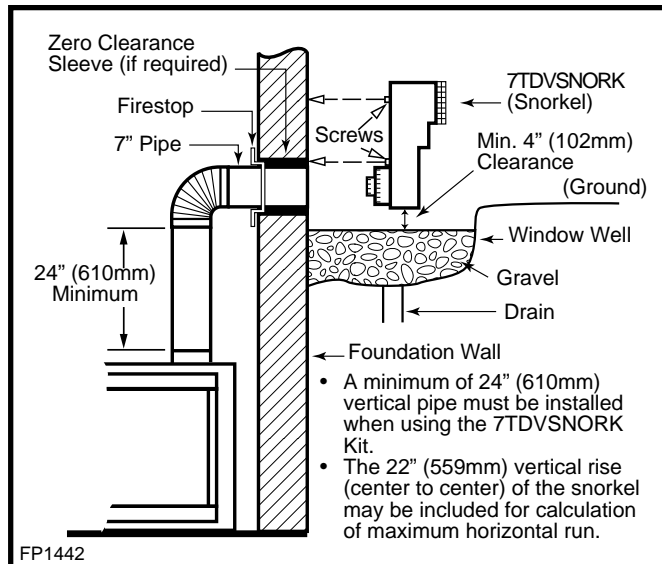

Fig. 28 Below grade installation.
2. Remove soil to depth of about 16" (406mm) below base of snorkel. Install window well (not supplied). Refill hole with 12" (305mm) of coarse gravel, leaving a clearance of about 4" (102mm) below snorkel. (Fig. 28)